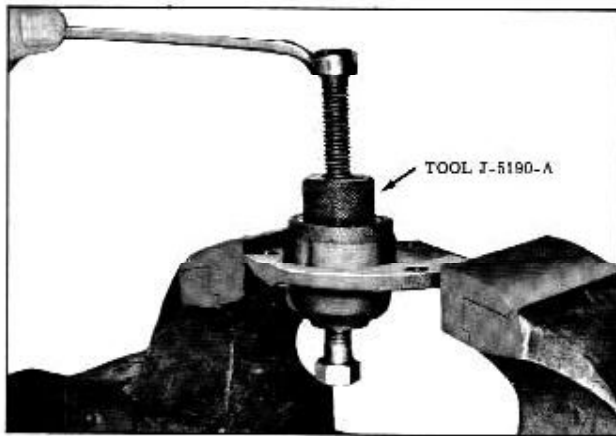

Fig. 4-9 Removing Needle Bearing
- Turn the forcing screw in to expand jaws and remove the bearing (Fig. 4-9).